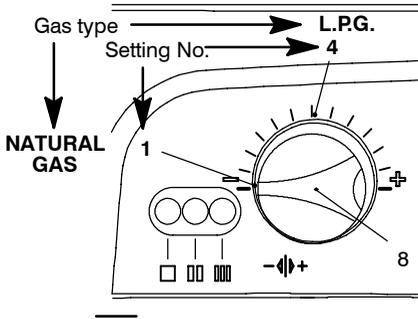

Fig. 8.5
At this step it is possible to visualize the current setting by keeping the reset button 6 pressed for more than 5 seconds. The lamps 9 will flash a number of times corresponding to the setting of the knob 8 in Fig. 8.5.
- 13 To change the setting turn the knob 8 on a position corresponding to the gas used as shown in Fig. 8.5.